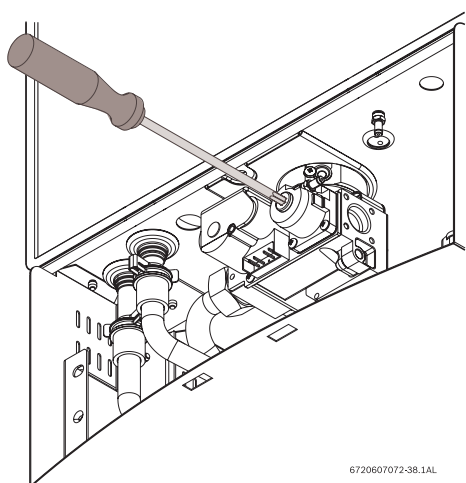

Fig. 56 Adjusting P2 CO2 level
- ▶ Remove yellow painted #40 Torx cover from the front of the gas valve. (Fig. 56) A plastic #40 Torx screw will be revealed.